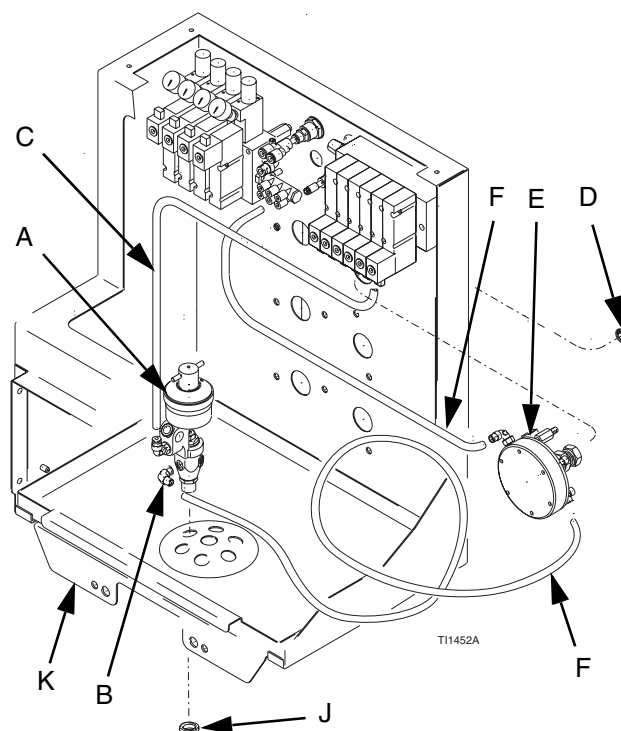

FIG. 1
4. Slide out dispense valve tray (K). Tip it down and hook the notch on the pin to hold tray in place.
5. Disconnect tubing (C and F) from dispense valve (A). See **FIG. 1**.
6. Remove nut (J) with a 7/8" 6-point socket wrench and remove dispense valve (A). Remove fluid inlet tube fitting (B).
7. Remove two hex nuts (D), fluid regulator (E), and tubing (F).